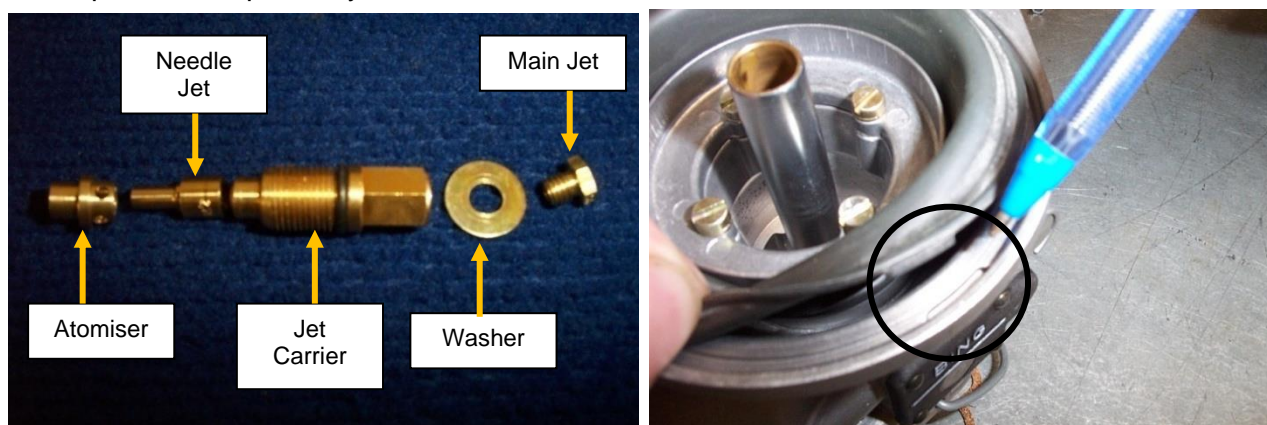

Figure 118 – Carburettor Jets & Diaphragm
- During re-assembly ensure that the atomiser, needle jet, jet carrier, washer and main jet are installed in the correct orientation and correct order as shown in Figure 118 (left). Also ensure that the tag on the diaphragm is aligned and fitted correctly to the socket in the carburettor body as shown in Figure 118 (right)